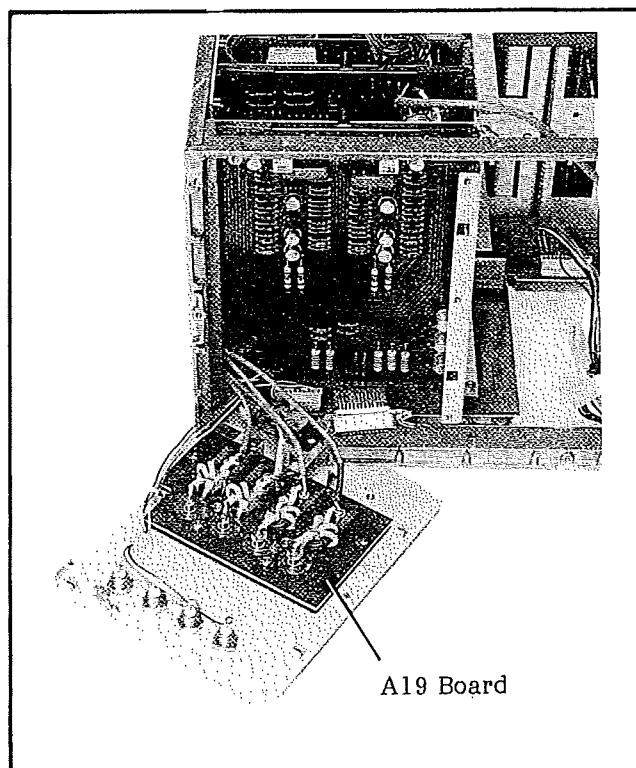

Figure 8-10. A19 Board Assembly.
- (6) To access the A19 board, shown in Figure 8-10, remove the shield plate.